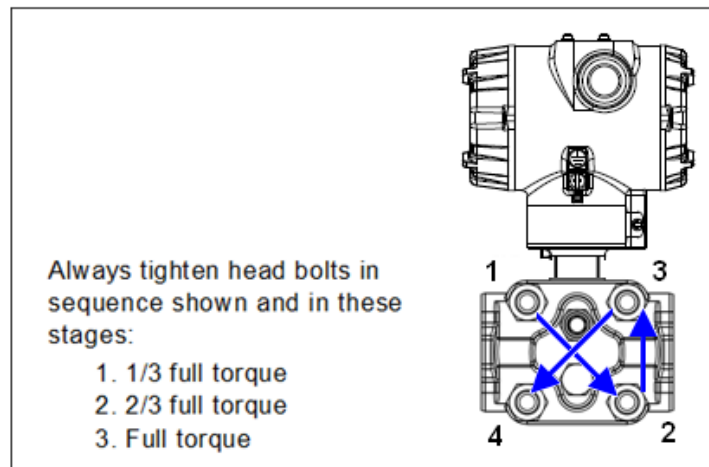

Figure 25 – Head Bolt Tightening Sequence
16. Use a torque wrench to gradually tighten nuts to torque rating in sequence shown in Figure 25. Tighten head bolts in stages of 1/3 full torque, 2/3 full torque, and then full torque.